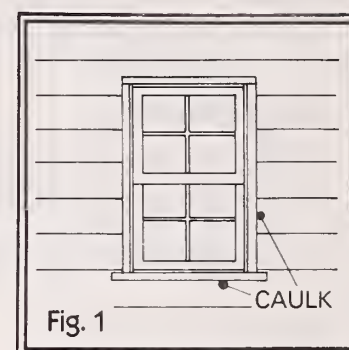

Fig. 1
- Between window and door frames and the main frame of the house (fig. 1).